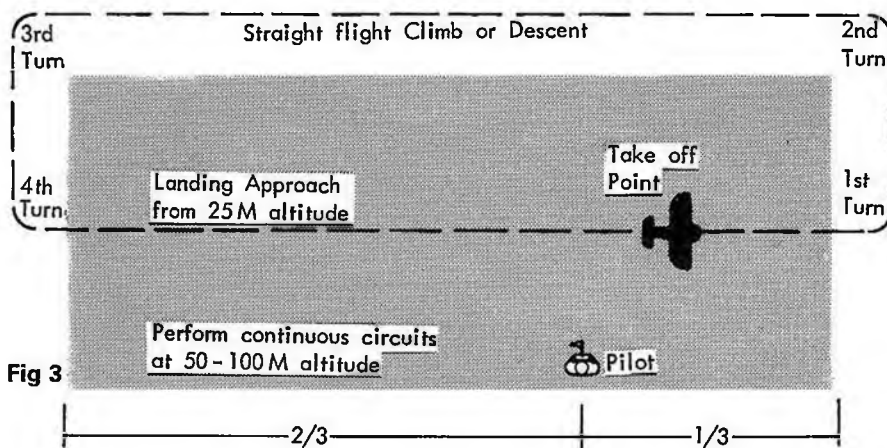

Fig 3
1. Position yourself in the field as in Fig 3.